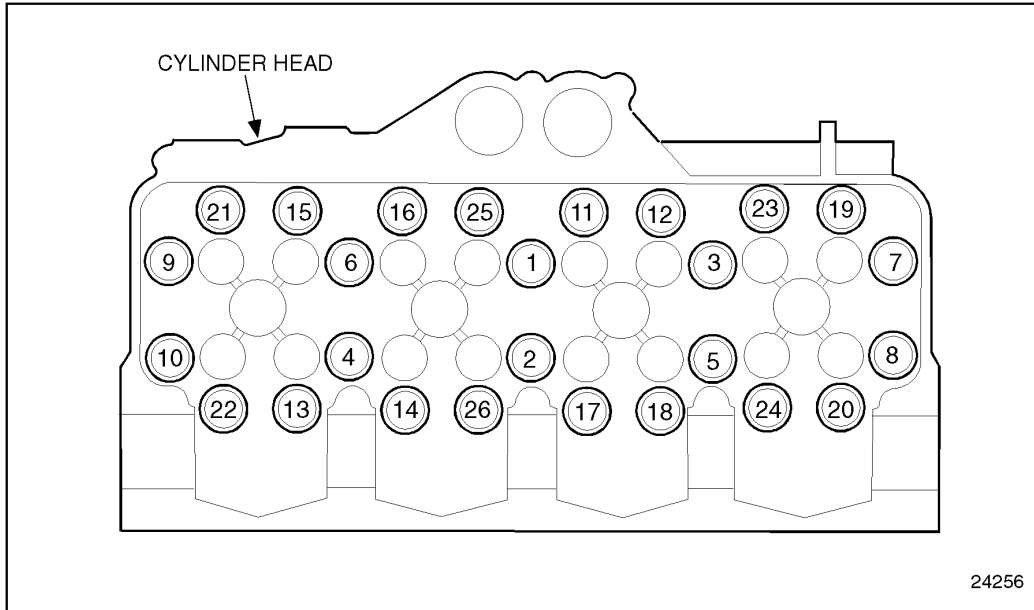
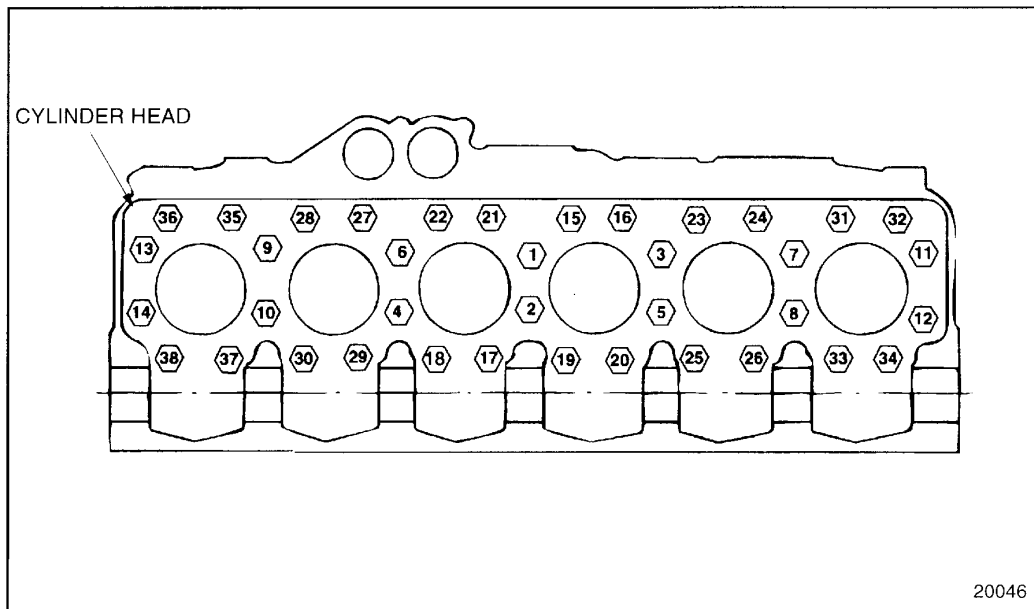

Figure 2. Series 50 Cylinder Head Bolt Tightening Sequence
Figure 3. Series 60 Cylinder Head Bolt Tightening Sequence
2) Torque all bolts in the required sequence to 298 N•m (220 lb-ft). See Figure 2 for the Series 50 cylinder head torque sequence or see Figure 3 for the Series 60 cylinder head torque sequence.